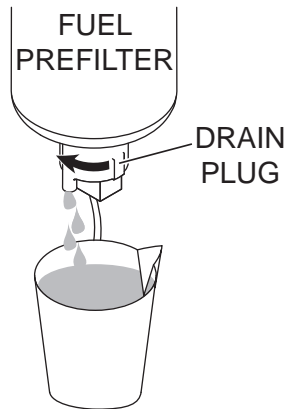

Figure 50. Fuel Water Separator Filter
1. Place a suitable container under the drain socket of the drain plug (Figure 50).